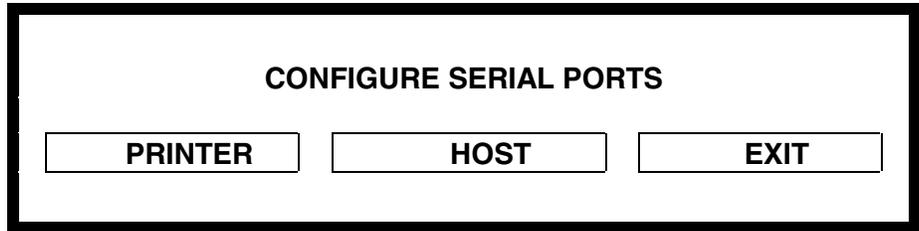

Figure 2-19 Master Peripheral Selection Screen
- Master Peripherals** This selection configures the Master's printer and host serial ports. Touching *conFig* followed by the Master peripherals item from the pull-down presents the Configure Serial Ports Screen, as shown in Figure 2-19.